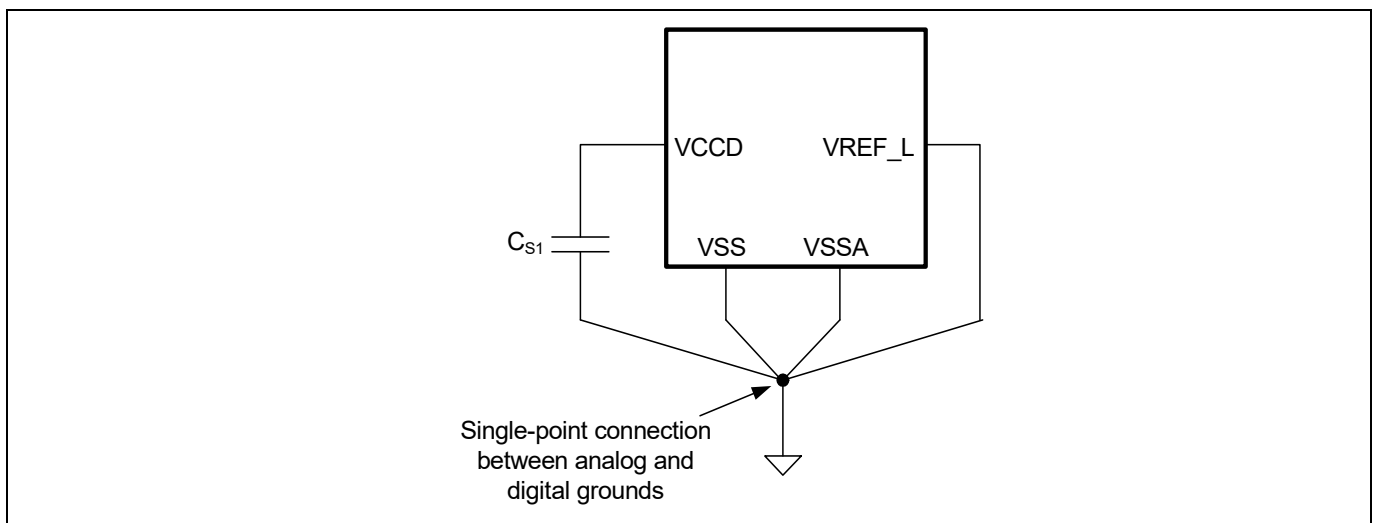

Figure 26-2 Smoothing capacitor
48. Smoothing capacitor,  $C_{S1}$  is required per chip (not per  $V_{CCD}$  pin). The  $V_{CCD}$  pins must be connected together to ensure a low-impedance connection (see the requirement in Figure 26-2).